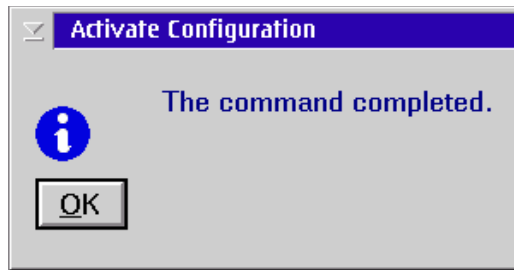

Figure 3-22 Activate Configuration command completed
3. On the Activate Configuration Warning panel, click **OK**. The Activate Configuration command completed panel is displayed (see Figure 3-22).